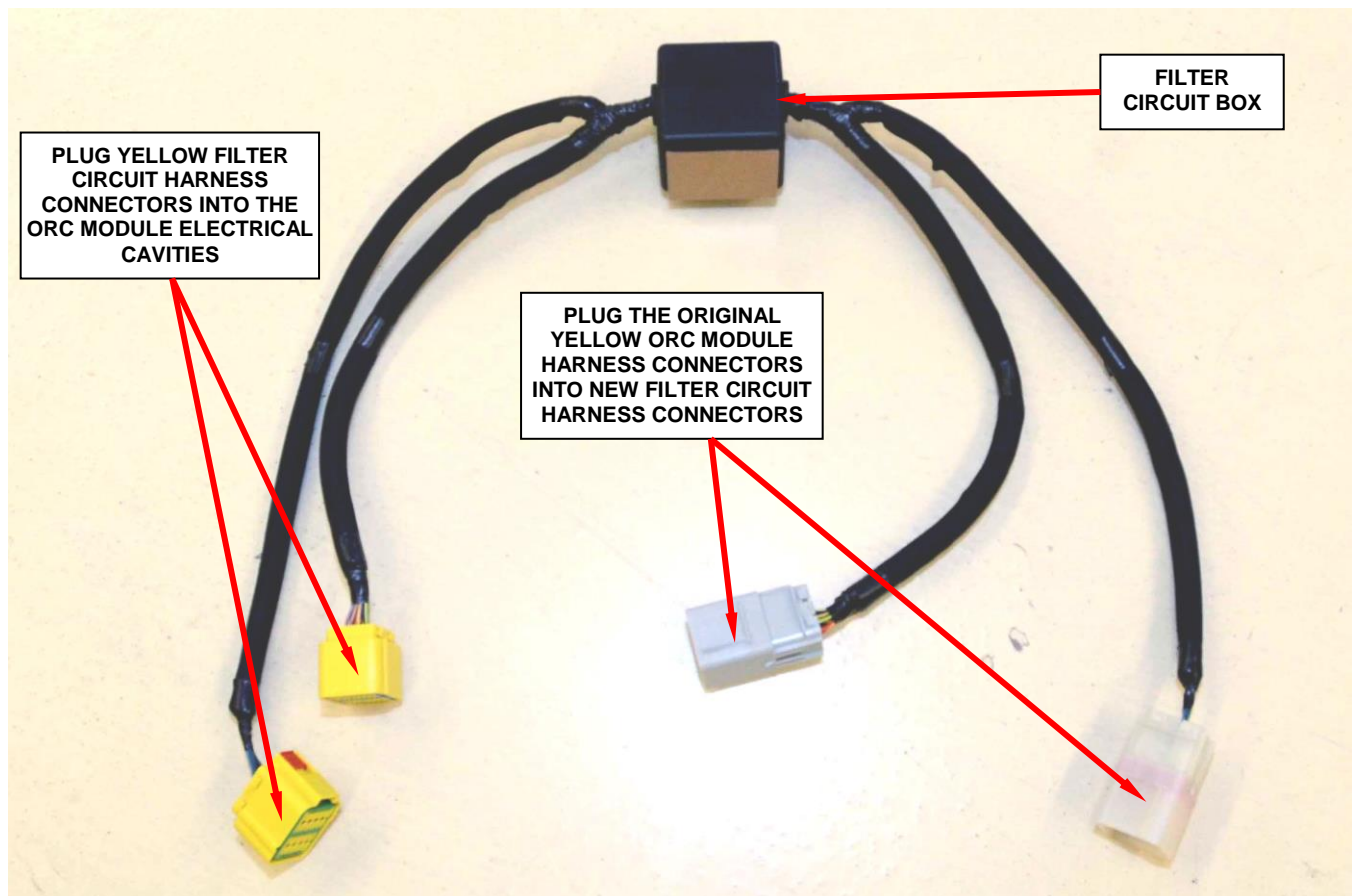

Figure 19 – Filter Circuit Harness
7. Plug the new filter circuit wiring into the ORC module (Figure 19).
8. Connect the original yellow ORC module harness connectors to the filter circuit wiring connectors (Figure 19).